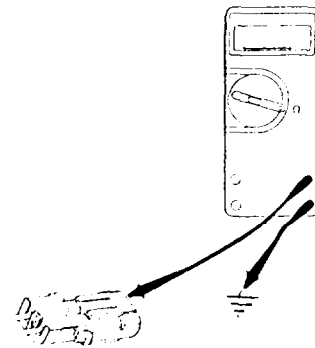

FIG. 12
**Correction:** Measure the resistance of each tach sender wire to ground (Fig. 12). The one wire with a reading of 0 ohms is at ground potential. This wire should be cut and the two ends insulated. If the problem continues, add a separate sending unit for the low speed signal.